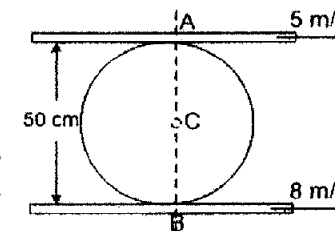

Figure 7
7. (a) The equation of motion of a particle moving in a straight line is given by : $s = 18t + 3t^2 - 2t^3$ where (s) is in metres and (t) in seconds. Find (1) velocity and acceleration at start, (2) time, when the particle reaches its maximum velocity, and (3) maximum velocity of the particle. (4)
- (b) A cylindrical roller 50 cm in diameter is in the contact with two belts at top and bottom as shown in figure 7. If the belts run at the uniform speed of 5 m/sec and 8 m/sec, find the linear velocity and angular velocity of the roller. (6)